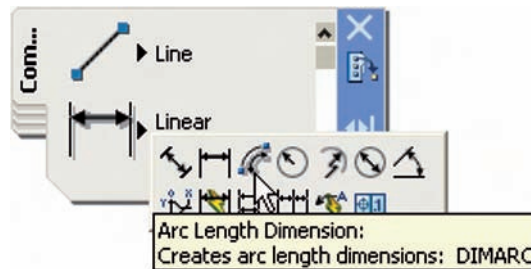

Fig. 6.18 The **Arc Length** tool
2. Call the **Arc Length** tool with a *click* on its tool icon (Fig. 6.18), or with a *click* on **Arc Length** in the **DIMENSION** toolbar, or by *entering dimarc* at the command line. The command line shows: